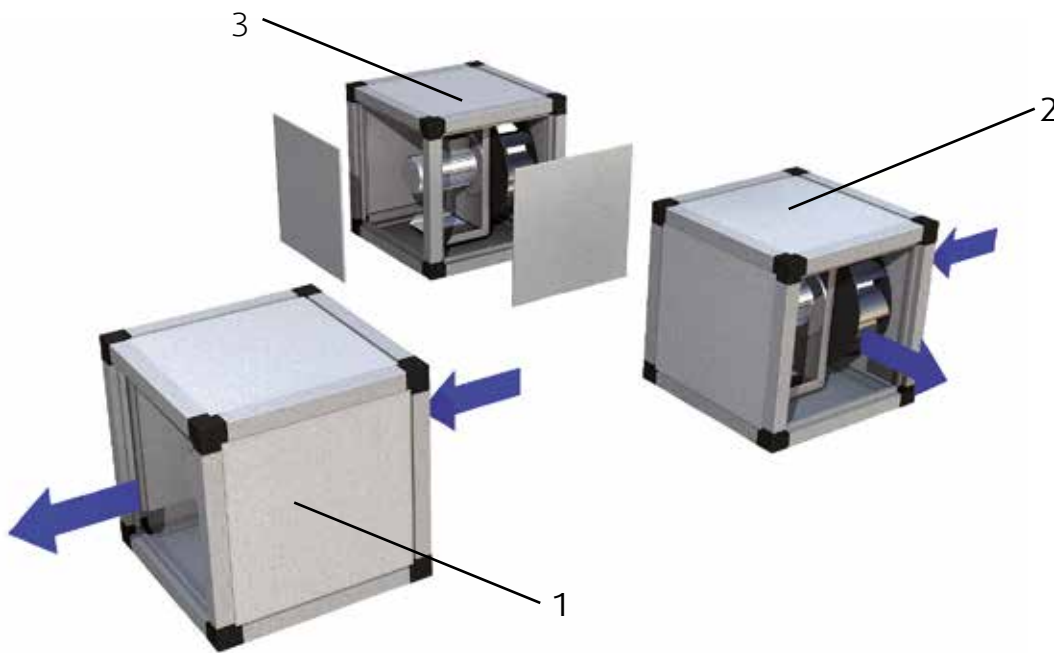

Fig. 11: MUB with various possibilities of blow-out
- ☞ Close the other side with this side panel (see Fig. 11).